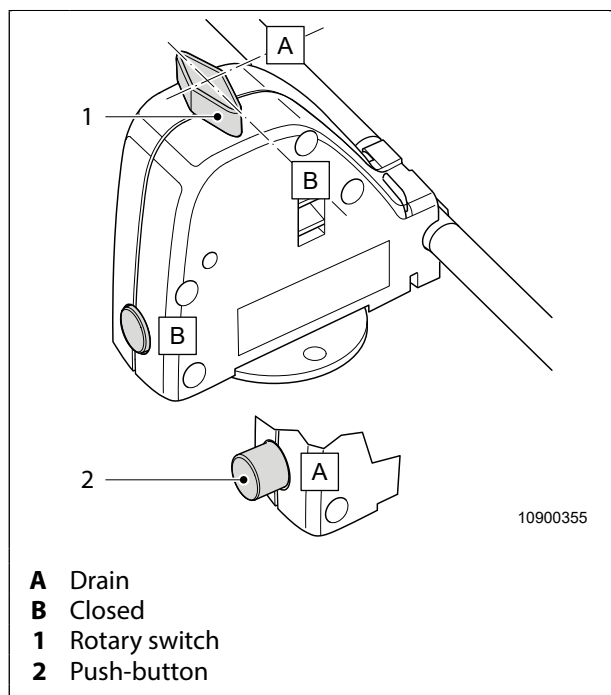

Fig. 61 Truma FrostControl hot water boiler
3. Turn the rotary switch (Fig. 61, item 1) from position B, "Closed", by 90° until it engages in position A, "Empty". The push-button (Fig. 61, item 2) springs out.
1. Turn the rotary switch (Fig. 61, item 1) from position A "Drain" by 90° until it engages in position B "Closed".
2. Push in the push-button (Fig. 61, item 2).